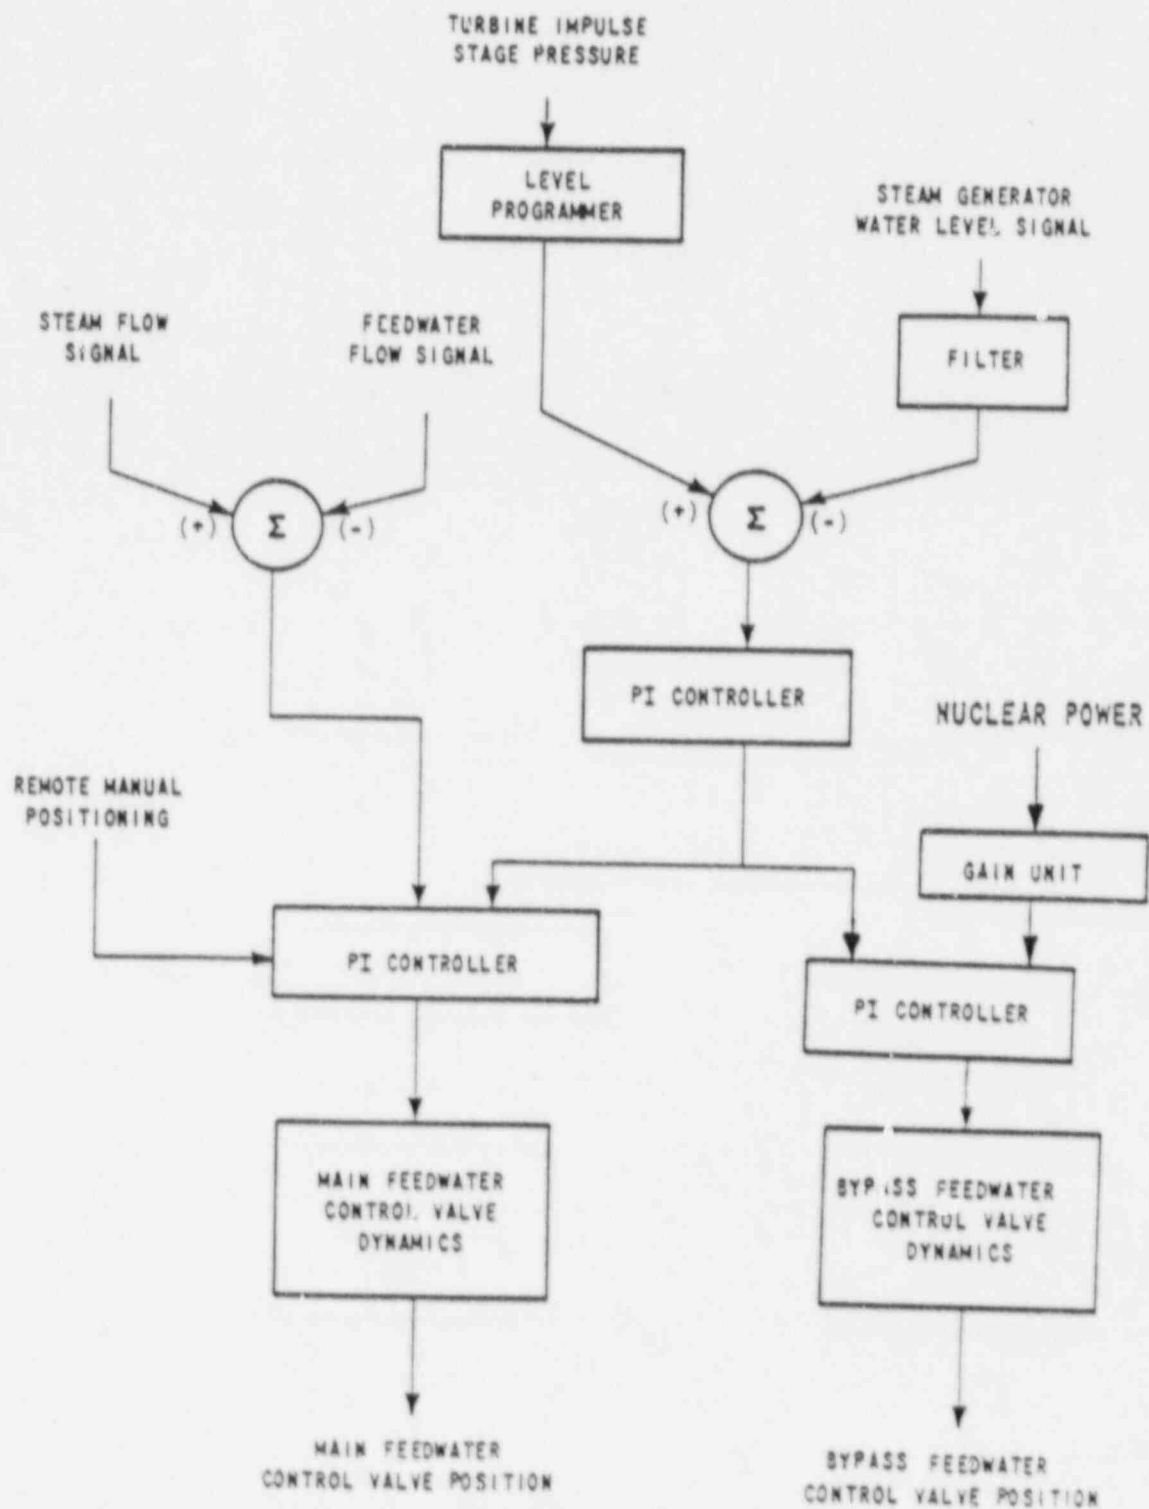

FIGURE 7.7-6
6.06 The answer key states that the flow error will be cancelled out by the level error and the steam generator will operate at a steady state level higher than the desired program. This is not true. The level controller is a proportional-integral controller and it will continue to vary its output and change the position of the feed regulating valve until the level error becomes zero. The flow error is strictly a proportional signal. Please change the answer to indicate that the steady state level will be at the programmed value. Refer to Figure 7.7-6 from the UFSAR.